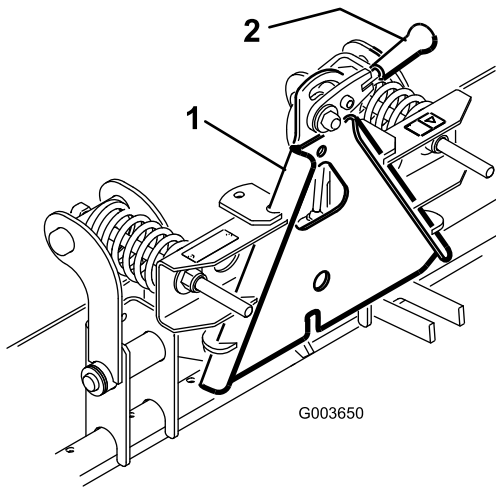

Figure 3
**Note:** Ensure that the locking lever is pivoted to the left (unlocked position) as viewed from the rear of the machine (Figure 3).